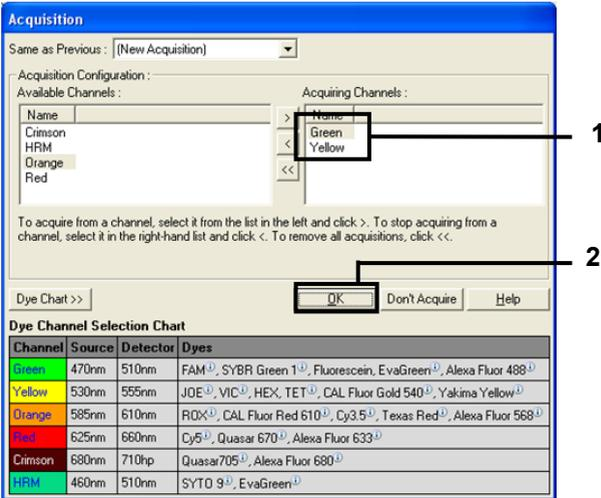

Figure 8. Acquiring at cycling step of 60°C. (1 = Selected channels; 2 = "OK")
10. Select **Green** and **Yellow** from the Available Channels list, then click > to transfer these channels to the Acquiring Channels list. Click **OK** (Figure 8).